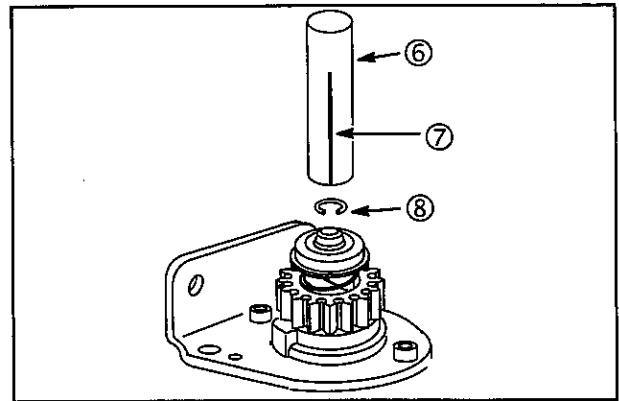

Fig. 9
4. Place C-ring (8) over chamfered end of shaft. Align one of the slots (7) of C-ring Installer #19435 (6) with open end of C-ring, Fig. 9.